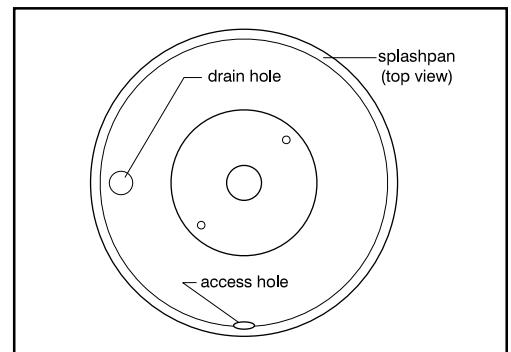

Figure 3
6. Place splashpan (with drain hole on the left) over shaft (figure 3).